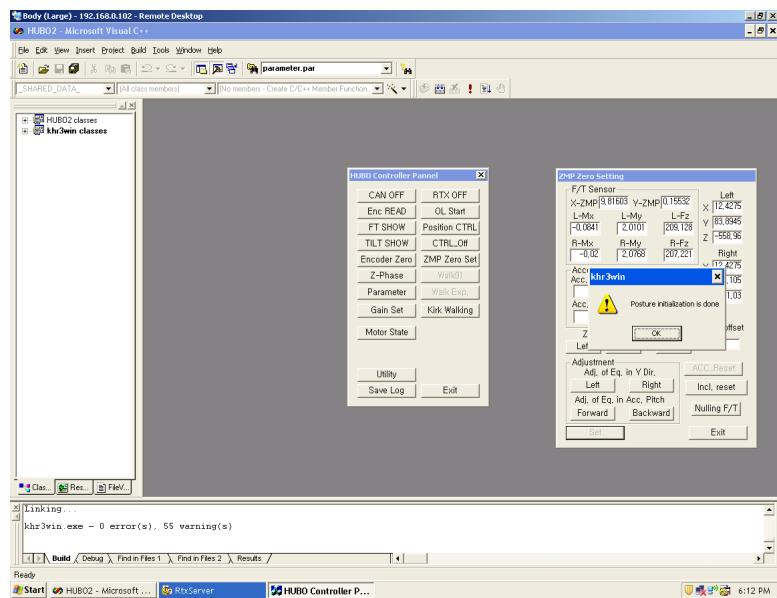

Figure 25: ZMP Zero Set Dialog (After Pressing *Set*)
By pressing *Set* you are saving the current ZMP values. A notification box will now pop up stating that your *Posture initialization is done*, see Figure 25.
5.43 Click *OK* in the pop up box with the text *Posture initialization is done*, Figure 25
5.44 Click *Exit* in the ZMP Zero Set Dialog, Figure 25